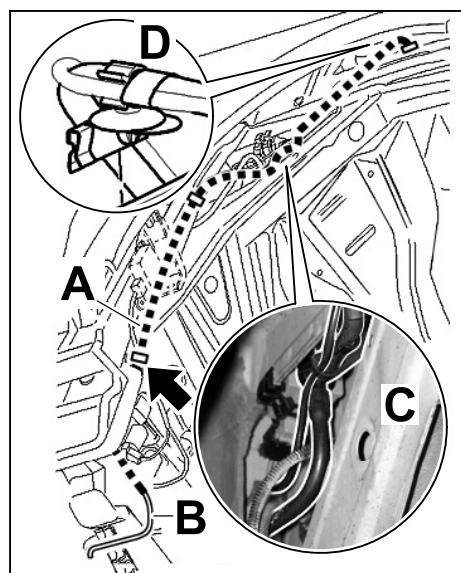

Figure 9
- 3.4.1 Fasten vacuum line in wheel housing ⇒ *Figure 9-A-* to the wheel housing using a change-over valve retaining clip ⇒ *Figure 9-C-* and a retaining clip ⇒ *Figure 9-arrow-*.
- 3.4.2 Join vacuum line in wheel housing to vacuum line at door sill ⇒ *Figure 9-B-*.
- 3.4.3 Slide retaining clip onto the seam ⇒ *Figure 9-D-* on the wheel housing.